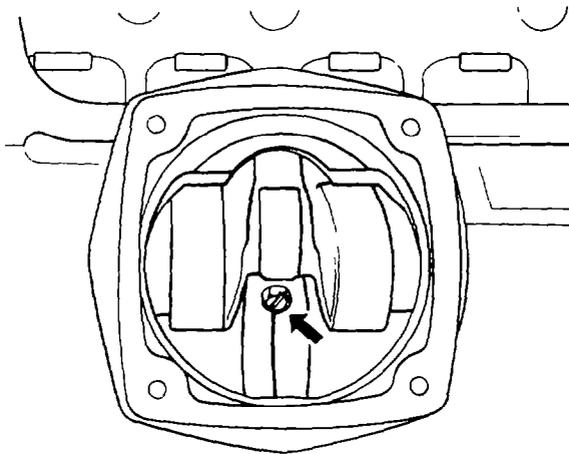

Figure 8 Clamp
- e. Remove the cover from immediately below the tappet housing; remove the retaining bolt and detach the clamp from the camshaft; discard the gasket from the housing (see Fig 8).